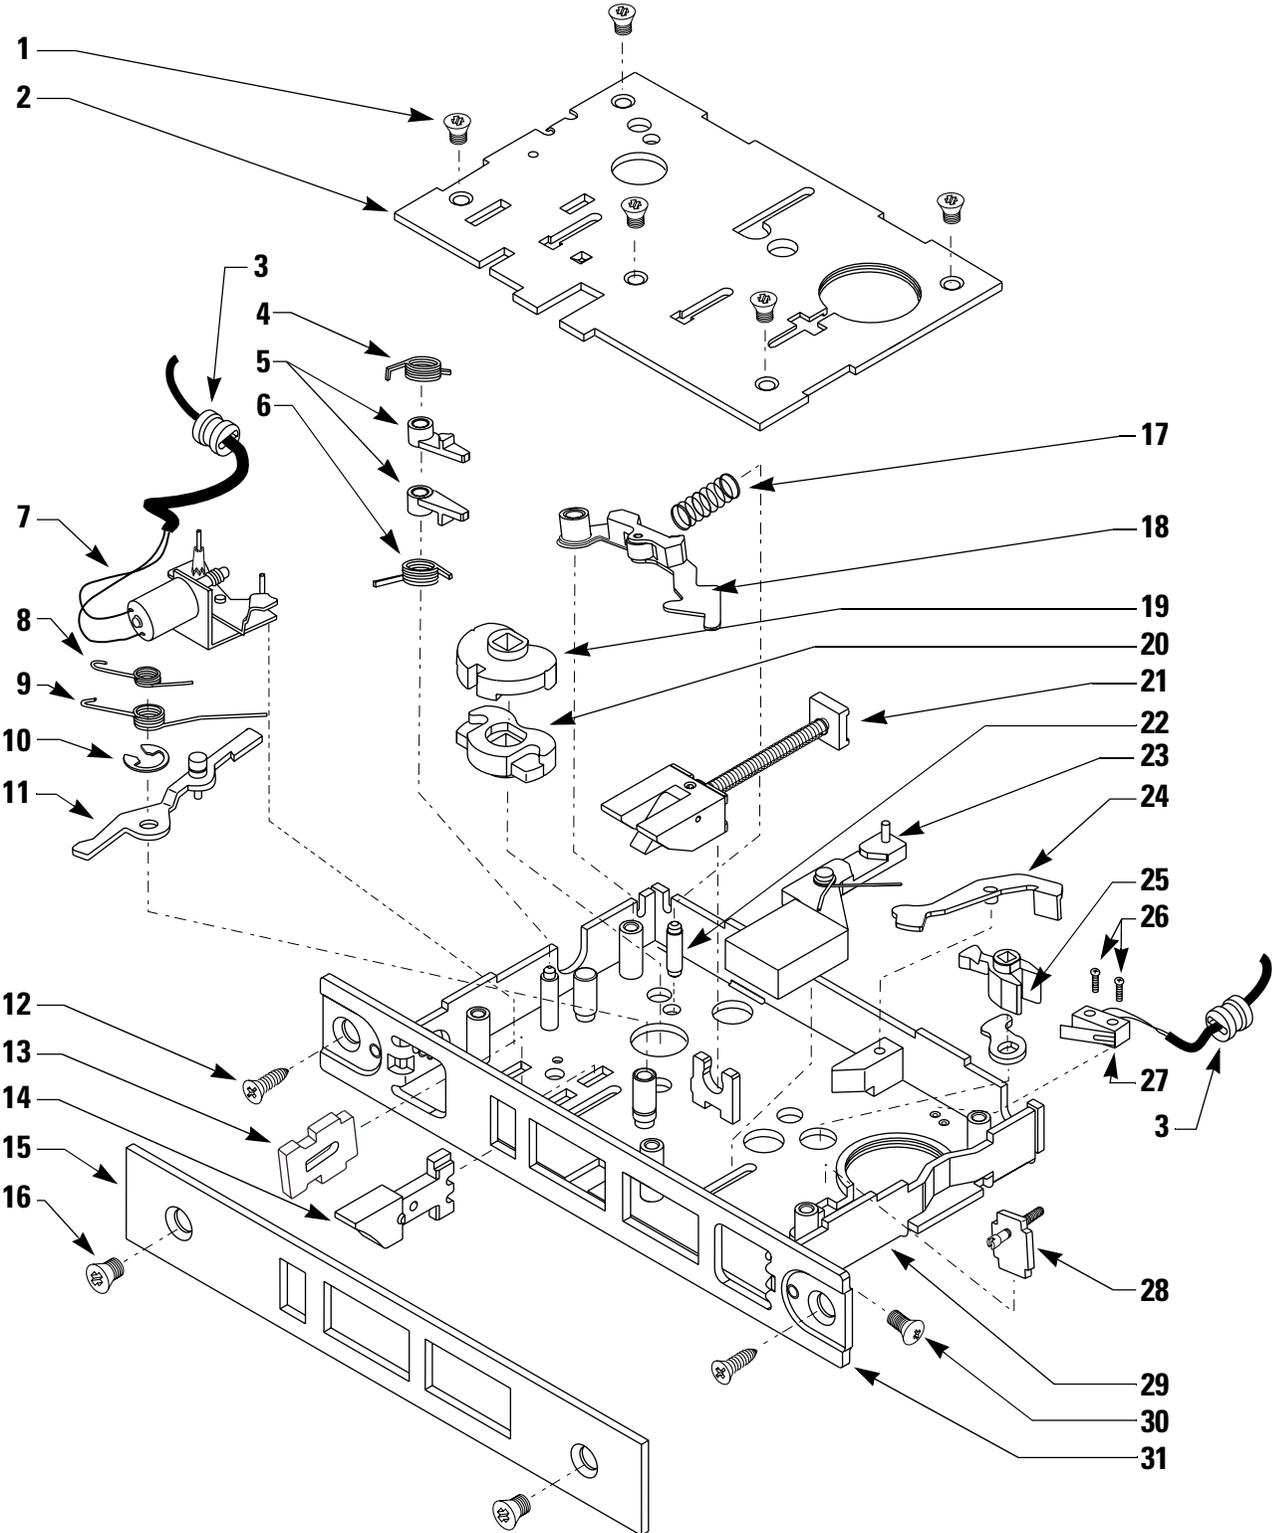
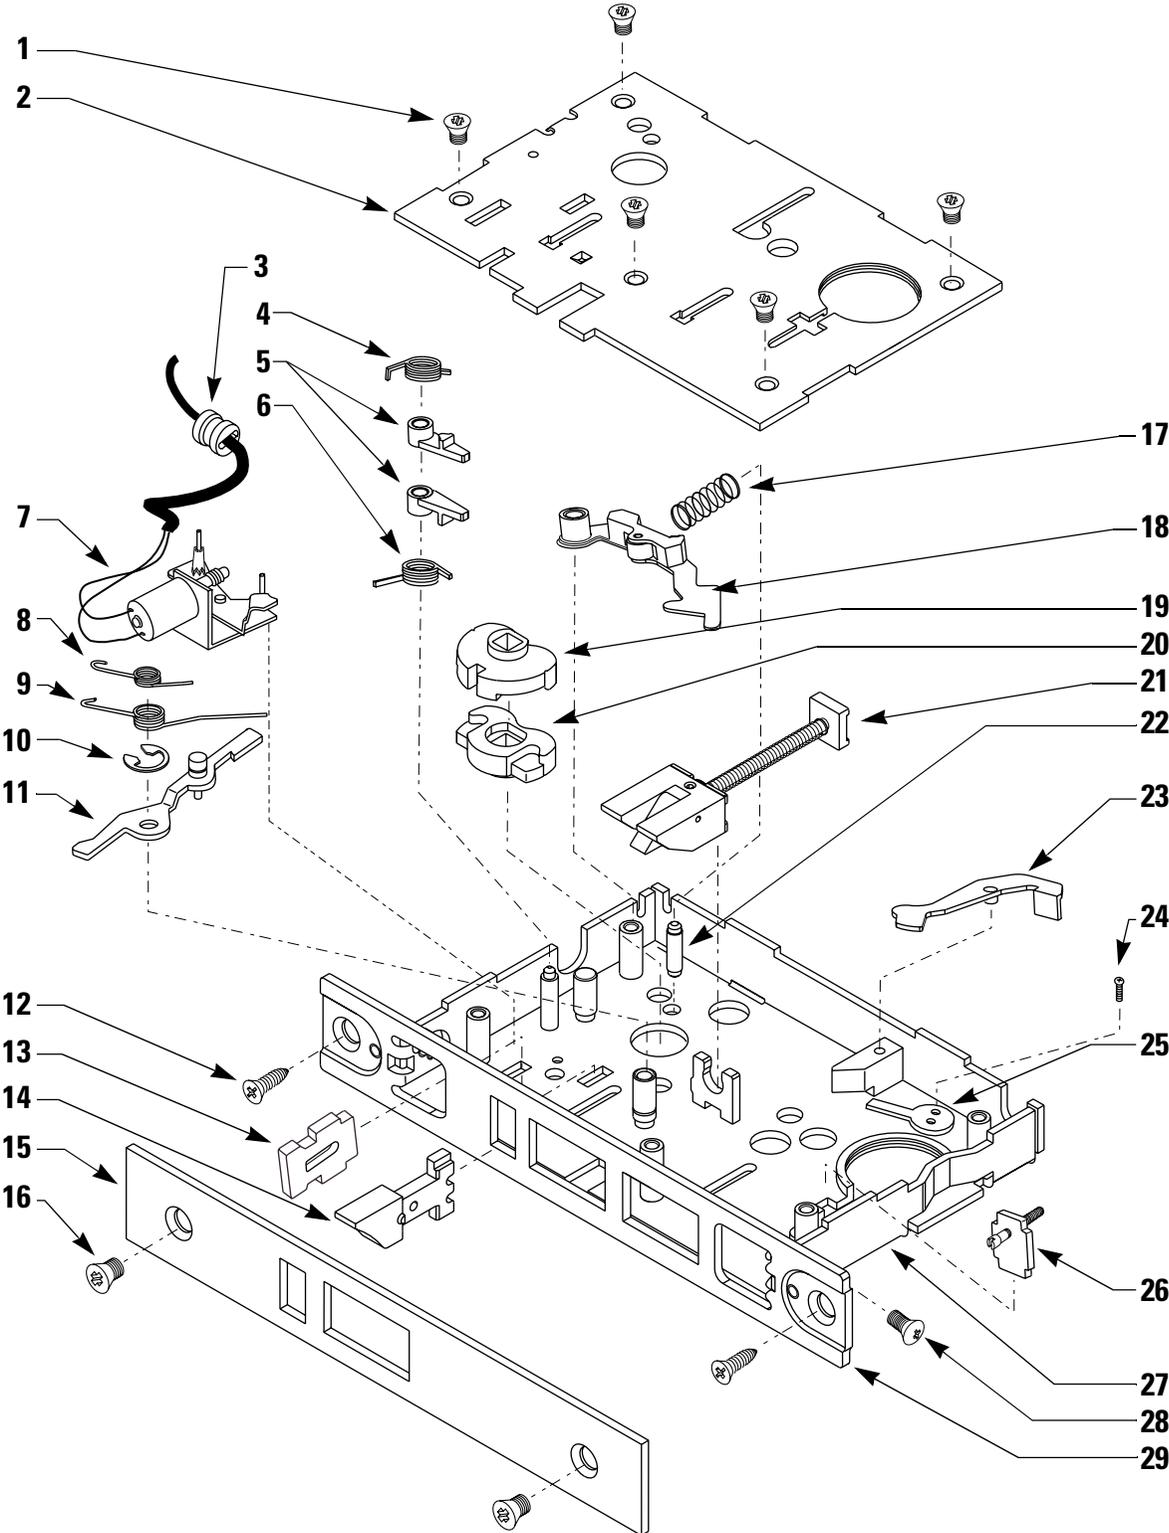

Figure 2.8 34/35HV case with deadbolt exploded diagram
Figure 2.9 34/35HV case without deadbolt exploded diagram
- b. For 30HV case parts, see Figure 2.8 and Figure 2.9.
Refer to Figure 2.8 and the table below to find the part you need.
Refer to Figure 2.9 and the table below to find the part you need.